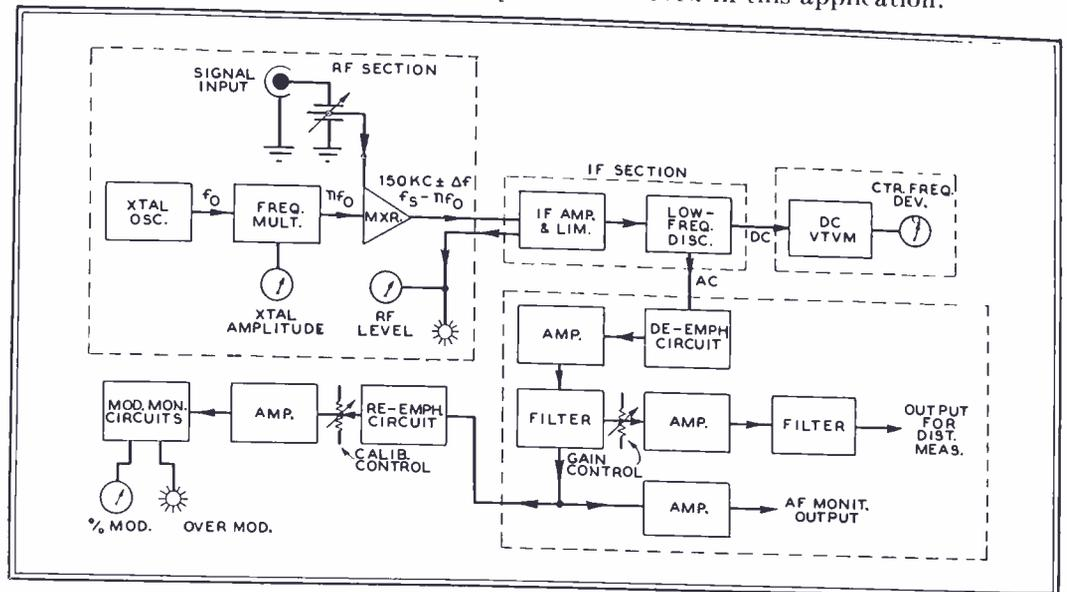

FIG. 3. THIS BLOCK DIAGRAM SHOWS THE CIRCUIT ELEMENTS OF THE FM MONITOR
**Operating Circuits** ★ Fig. 3 shows the operation of the monitor in simple block form. A crystal oscillator is used to drive a series of simple tuned-circuit amplifiers to produce a signal at the mixer which differs from the transmitter channel frequency by 150 kc. This 150-kc. signal is the center frequency of the IF system. A series of diode limiters and limiting amplifiers convert the signal into a high-level square wave that operates the pulse-counter discriminator. The DC output of the discriminator actuates a meter that indicates shift in the center frequency of the transmitter from the assigned frequency. The AC output of the discriminator is de-emphasized and passed